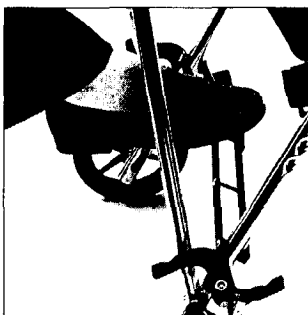

Fig.4
4. Use foot to lock the rear brace into a straight position. **Fig.4**